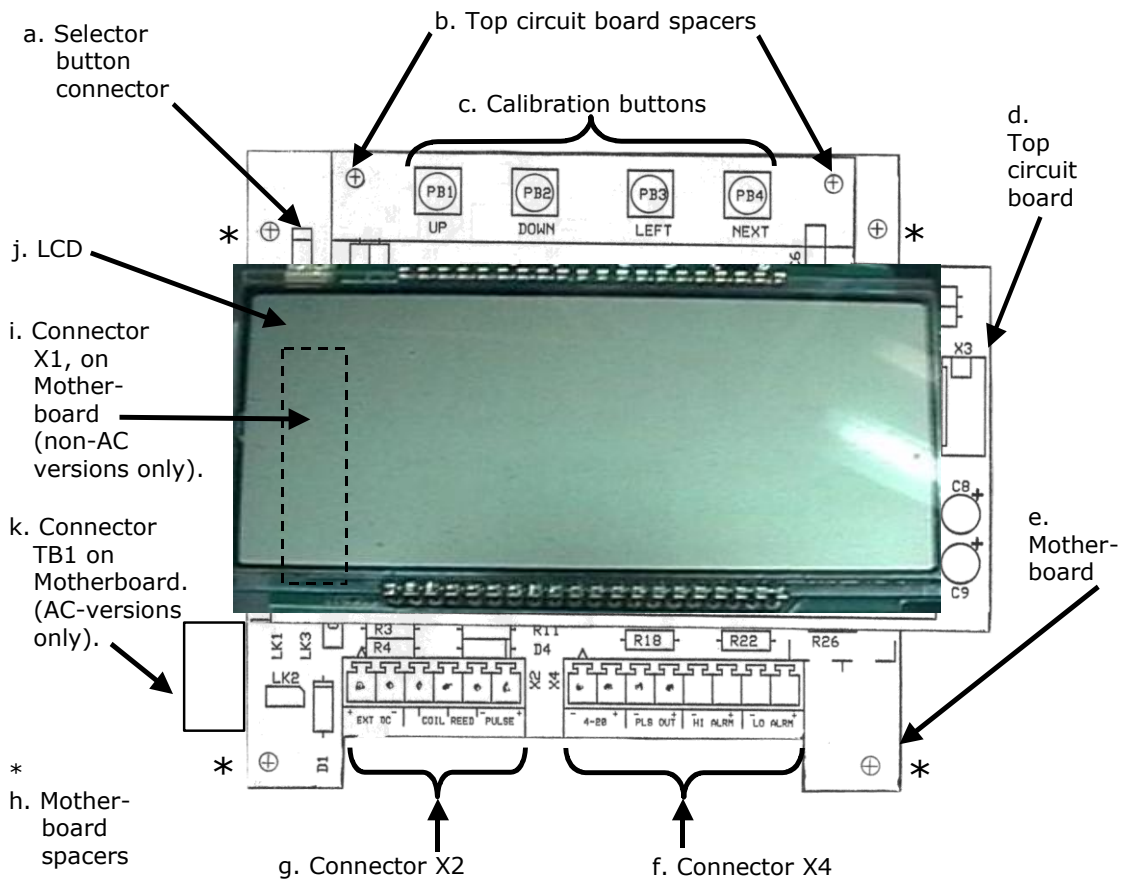
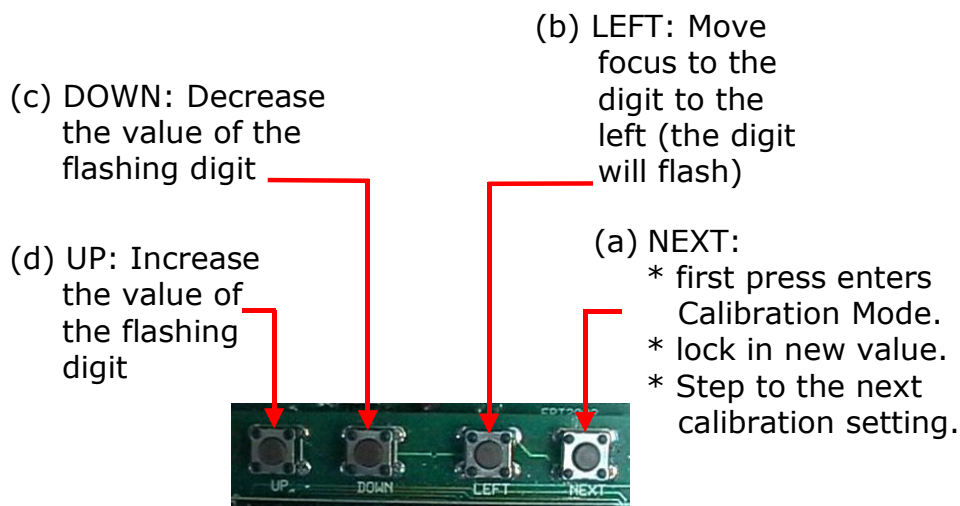
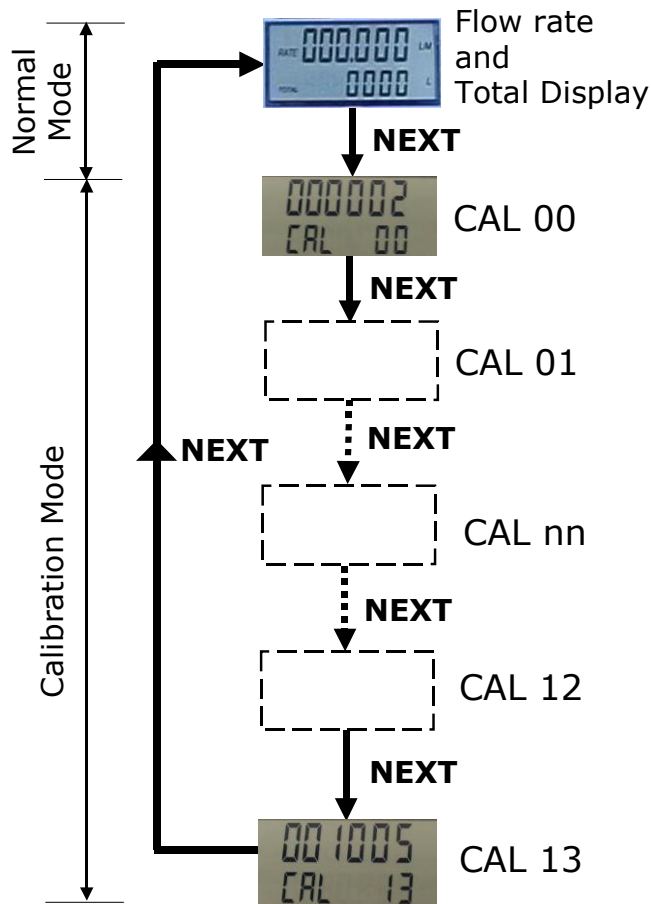

Figure 4. FRT303 Internal view of FRT303.
Figure 12. Internal Buttons to change calibration settings.
Figure 13. NEXT button cycles through the calibration settings.
Figure 4 below shows the FRT303 with the lid removed. Note the position of connectors TB1 (AC version only), X1 (non-AC versions only), X2 and X4 which are for power, input and output connections.
The location of connector TB1 is shown at Figure 4-k on page 6.
The location of connector X2 is shown at Figure 4-g on page 6.
Using the buttons (see Figure 12 and Table 3 on page 12) on the top circuit board internal to the FRT303 (Figure 4-c on page 6):
NEXT (Figure 12–a)	<ul style="list-style-type: none"> Steps through the calibration settings, as shown in Figure 13 on page 13. On first press, enters Calibration Mode. Locks in the value after a calibration setting has been modified (there will no longer be a digit blinking).
LEFT (1) (Figure 12–b)	<ul style="list-style-type: none"> Selects the digit to change in a calibration value, by cycling right to left through the digits. Moves focus to the digit to the left and causes the selected digit to blink (on first press, causes the right most digit of the calibration value to blink).
DOWN (1) (Figure 12–c)	<ul style="list-style-type: none"> Decreases the value of the selected digit (the digit that is blinking).
UP (1) (Figure 12–d)	<ul style="list-style-type: none"> Increases the value of the selected digit (the digit that is blinking).
Figure 13 below shows how successive presses of the NEXT button will cycle through the calibration settings.
then the K-factor is in pulses/Litre to 4 decimal places, so '100000' is 10.0000 pulses/Litre. A 1% increase is 0.1 pulses/Litre, so use the buttons shown in Figure 12 on page 12 to change CAL 03 to '101000' to represent 10.1000 pulses/Litre.